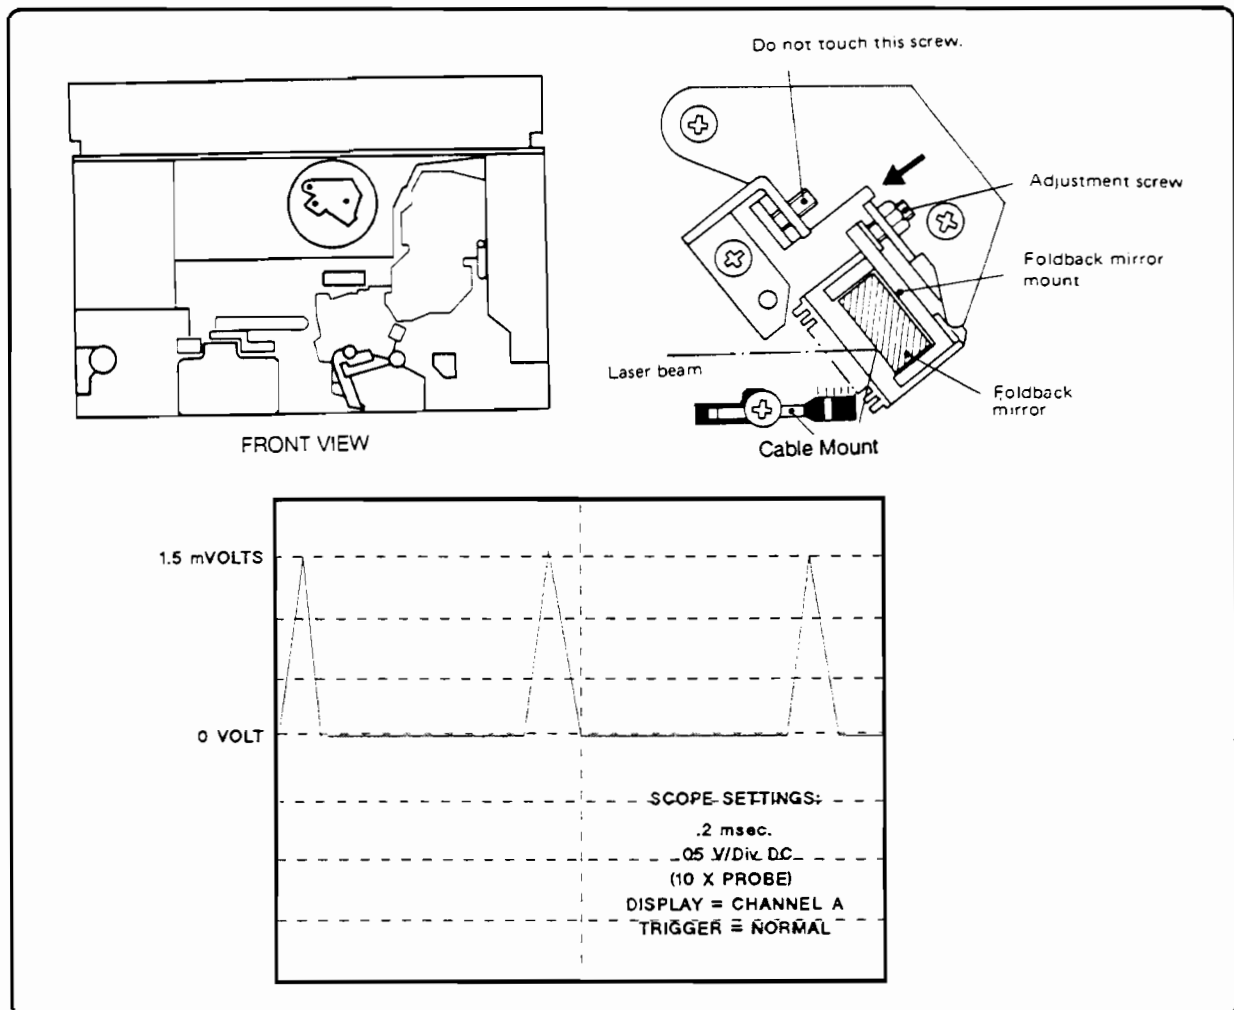

Figure 7-51. Foldback Mirror Adjustment
4. Turn the adjustment screw as close as possible to a maximum of 1.5mV DC (see Figure 7-51).